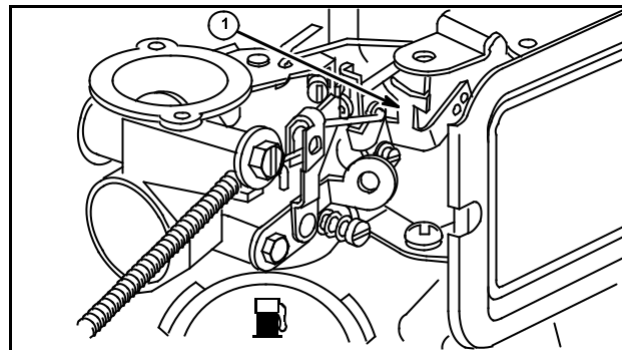
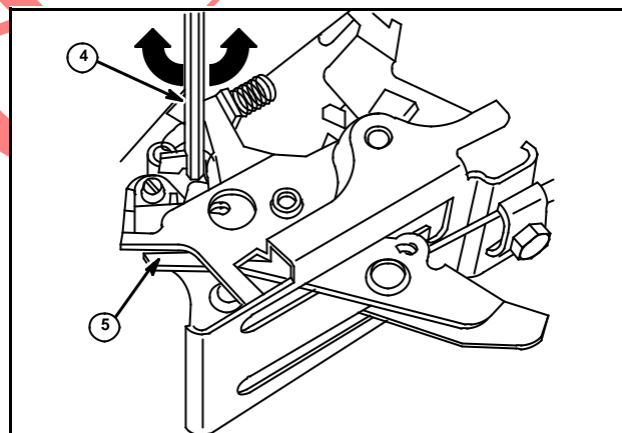

Fig. 1
Fig. 3
PNEUMATIC GOVERNOR SYSTEMS (FIGS. 1, 2)
4. Use tool #19229 (4), to bend spring anchor tang (1, Fig. 1), to obtain the proper top no load RPM, Figs. 3 and 4. Fixed speed tang (5), Figs. 3 and 4.
NOTE: Fixed adjustable control: before control lever can be moved to slow position, fixed speed tang (5), Figs. 3, 4, must be bent down to move lever.